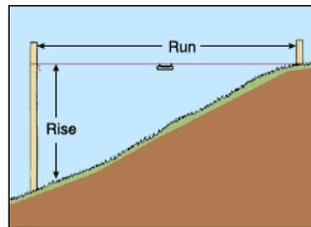

Figure 1..
- You will need to calculate the slope of your path (figure 1) using the following equation: